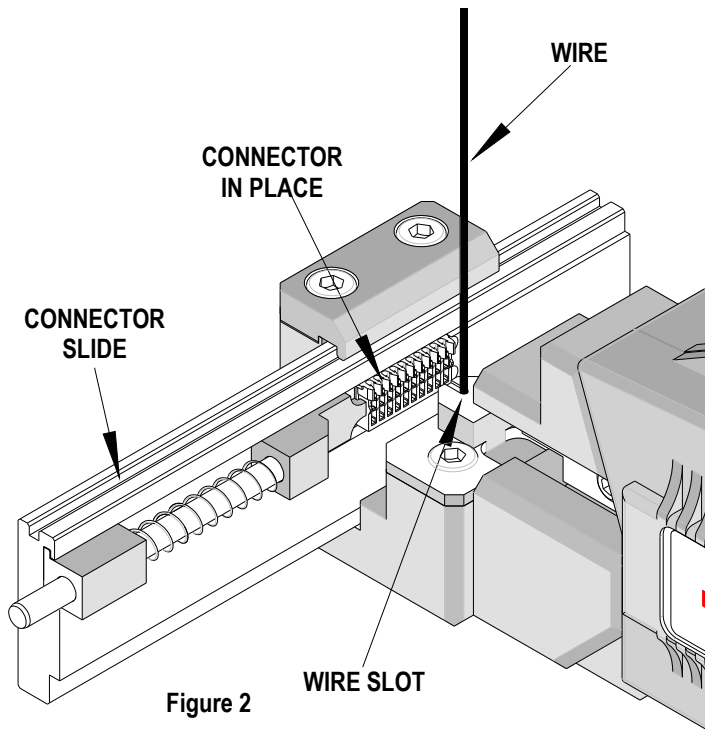

Figure 2
5. Place the first wire into the wire slot until it stops. See Figure 2.